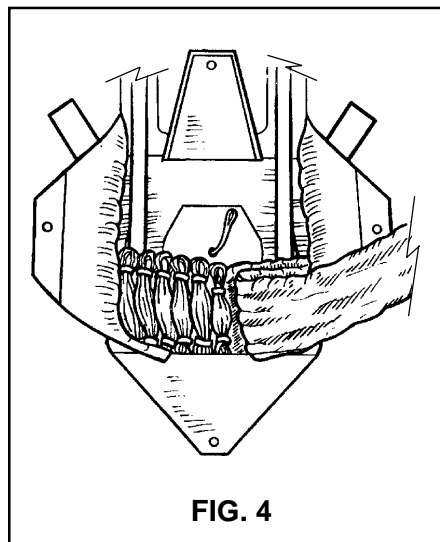

FIG. 4
5. Place the skirt (or diaper) of the canopy in the lower left corner of the reserve container. If the diaper is not as wide as the container, make a short fold in the right side to equalize the bulk (**FIG. 4**).